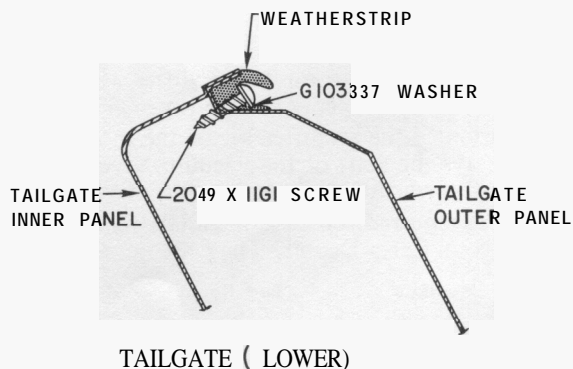

FIG. 8
3. Install the small screw, Part No. 2049 x **11G1**- (No. 6-18 x **34** truss head) and flat washer, Part No. CI03337 (5/32 x **38**) in the punched hole and tighten the screw securely. (See Fig. 8).